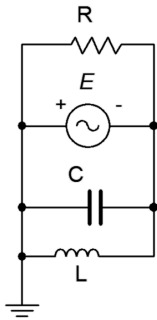

Figure 3.11
16. Determine all of the branch currents for the circuit shown in Figure 3.11 given $E = 2$ volt peak sine, $R = 1$ k, $X_C = -j2$ k. and $X_L = j3$ k.